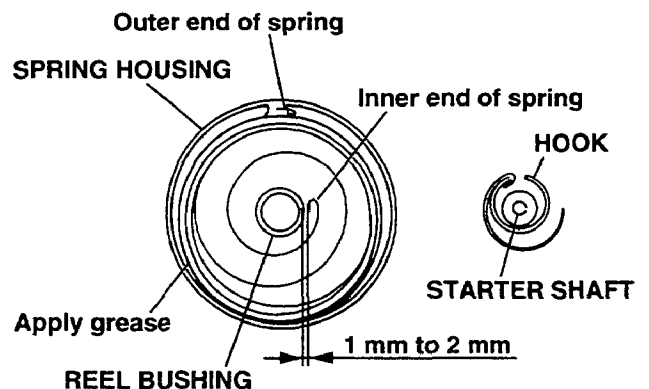

Fig. 9-5
(2) Check that the spring is securely set in the reel and form the spring end to measure 1 mm to 2 mm for clearance between inner end of the spring and the reel bushing edge so that the hook catches securely as shown in Fig. 9-5.
Refer to Fig. 9-5 for which way the spring must be placed.